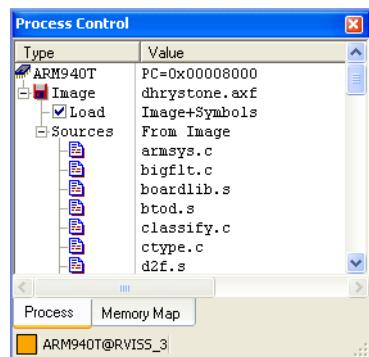

Figure 4-4 Image details in the Process Control view
By default, the side view to the right of the source and disassembly view is the Process Control view. However, if you no longer have the Process Control view visible, select **Process Control** from the **View** menu to display it as a floating view, shown in Figure 4-4.
In the example in Figure 4-4, you can see the following entries:
- When you load a binary no details are shown in the **Process** tab of the Process Control view (see Figure 4-4 on page 4-10). However, the memory map might be updated to show the memory details for the binary.